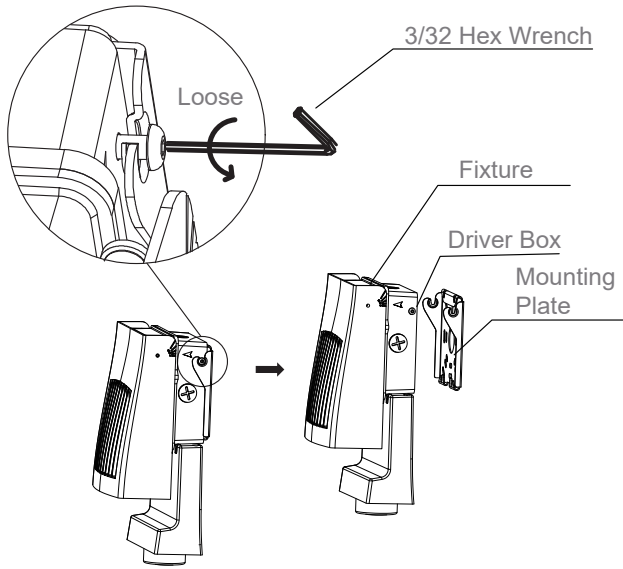

Figure 1
For 0-10V Dimming, follow the wiring direction as in Figure 1.
1. Use a 3/32 hexagon wrench to detach the mounting plate from the fixture by unscrewing halfway the 2 side retaining screws, until the mounting plate is loose. (Figure 1)